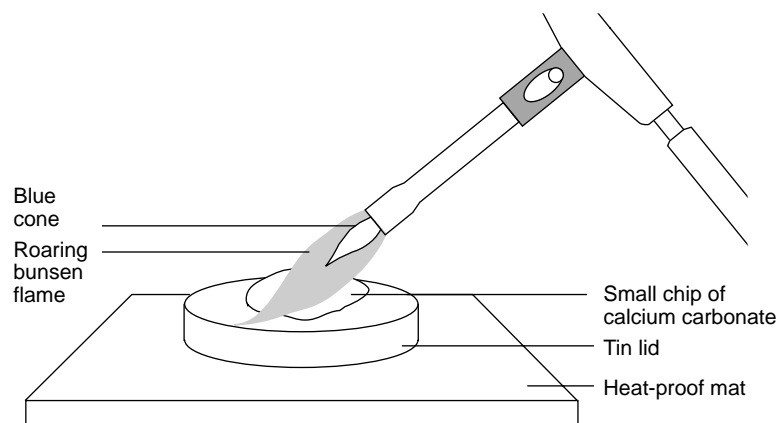

Fig 2
1. Take a small chip of calcium carbonate and place it on a clean tin lid standing on a heatproof mat. Heat the chip strongly for a few minutes using the hottest part of a roaring Bunsen flame, Figure 2. Note the burner air hole should be open, and remember that the hottest part of a Bunsen flame is just beyond the blue cone.